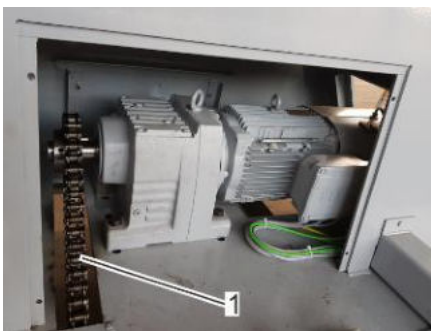

Fig. 88: Cage pull-out wheel drive
3. Wipe off old grease and dirt from the chain (Fig. 88/1).
4. Spray drive chain (Fig. 88/1) with chain spray.